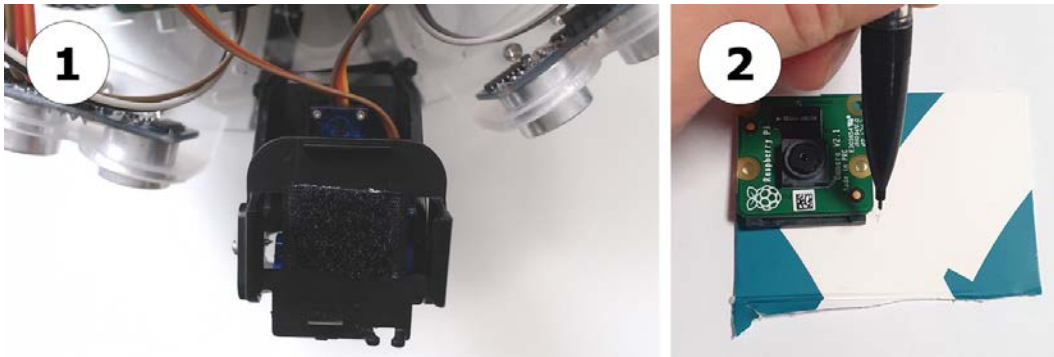

Figure 13.3 – Fitting the camera, steps 1–2
1. First, cut a small amount for one side of the hook-and-loop fastener and adhere it to the pan-and-tilt mechanism, as shown in *Figure 13.3*.